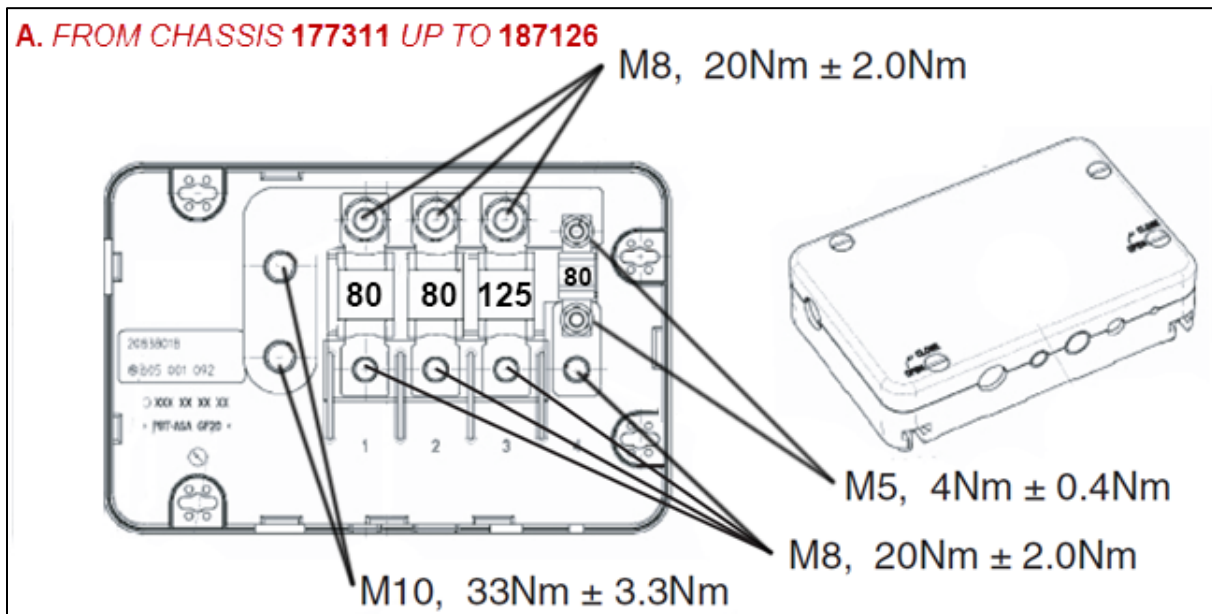
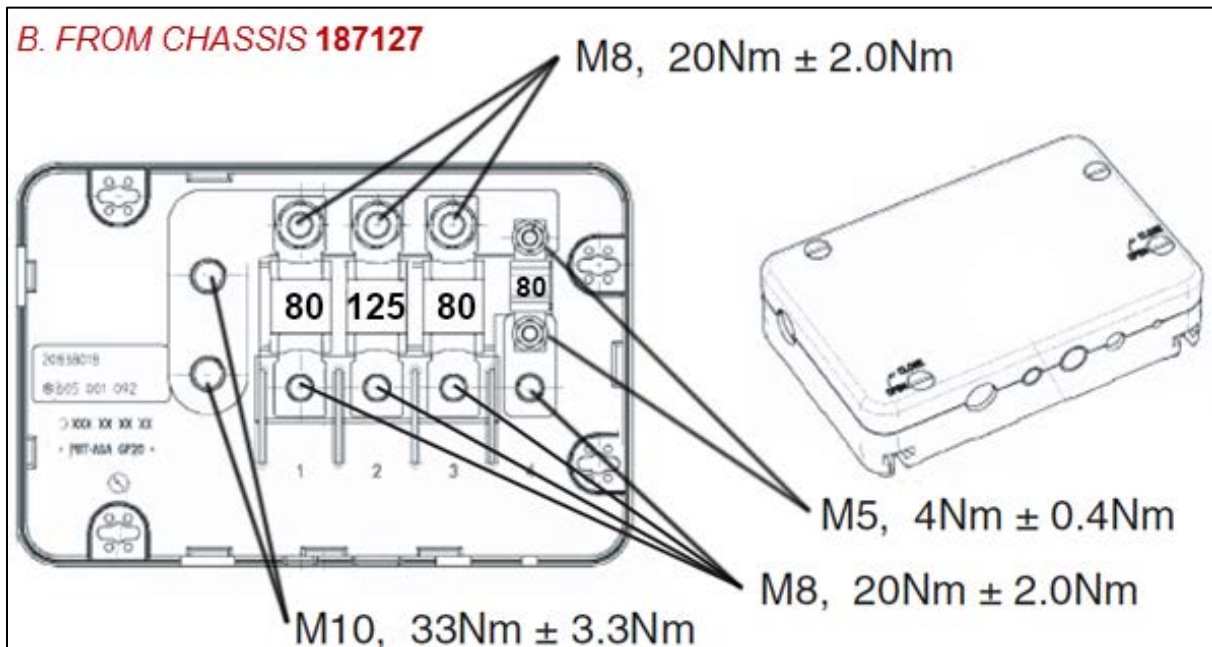

Figure 3: Stud Torques, Fuse arrangement. From Chassis 177311 up to 187126.
Figure 4: Stud Torques, Fuse arrangement. From Chassis 187127.
Refer to **Figure 3** below.
Refer to **Figure 4** below.
7. Tighten the connection studs to the indicated torque values shown in Figure 3 and Figure 4.